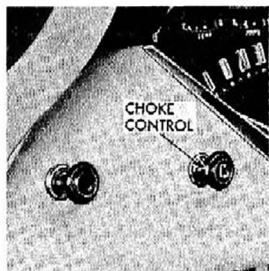

Fig. 7—Choke Control
**Choke Control.** The carburetor choke control knob on all models except those equipped with automatic transmission is located to the left of and below the instrument cluster on the instrument panel (fig. 7). The purpose of this control is to close or partly close the carburetor choke valve. This restricts the air intake and produces a richer fuel mixture for starting, while at the same time opening the throttle by means of a fast idle link on the carburetor except on those models equipped with an updraft carburetor. All models equipped with automatic transmission except Forward Control are provided with an automatic choke.